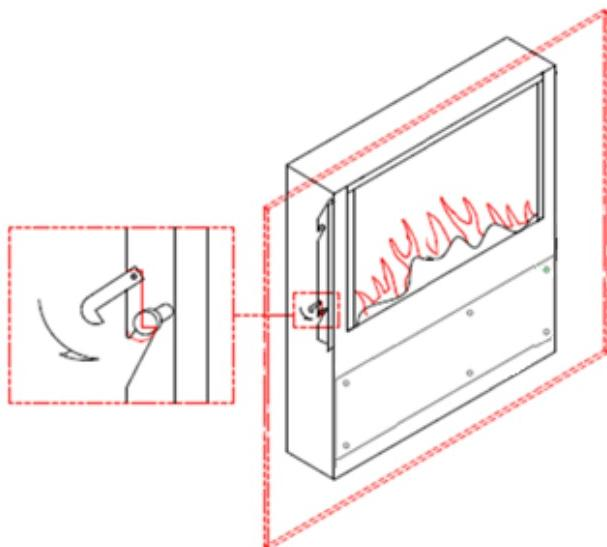

Fig. 3
3. Lift the glass face up to the fireplace. Then lower the face into place so that the brackets on the rear of the face locate either side of the studs on the fireplace. Once in place firmly tighten the locking bolts. **Figure 3**